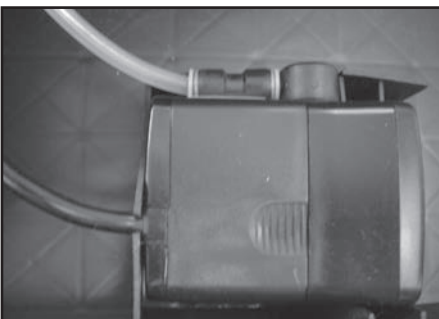

FIGURE 9
2. Remove the plug from the bottom of the tray, the water will flow out or you can remove the tray and pour the water out (Fig 9).